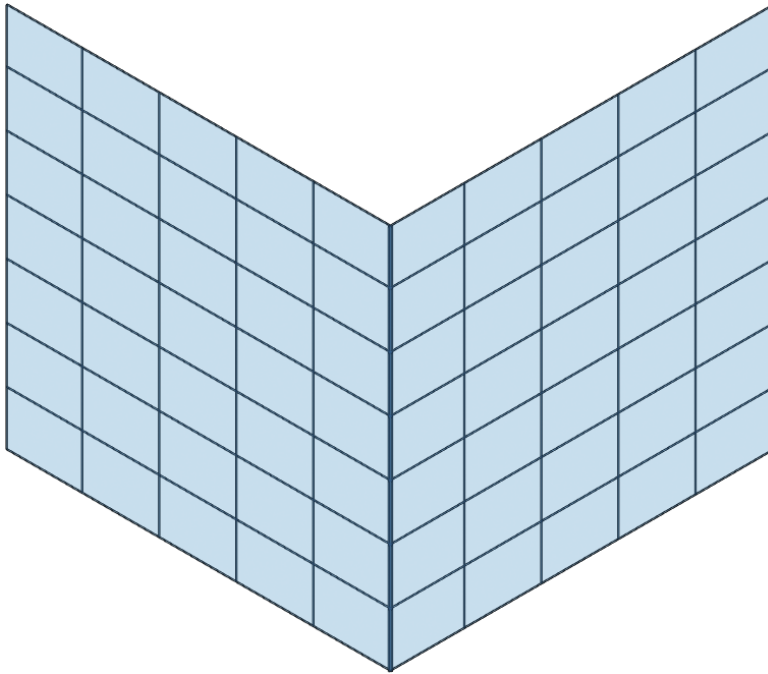

FIGURE 2.21 Curtain wall grids added
3. Both curtain walls should update to show grid lines at the spacing you configured (Figure 2.21).